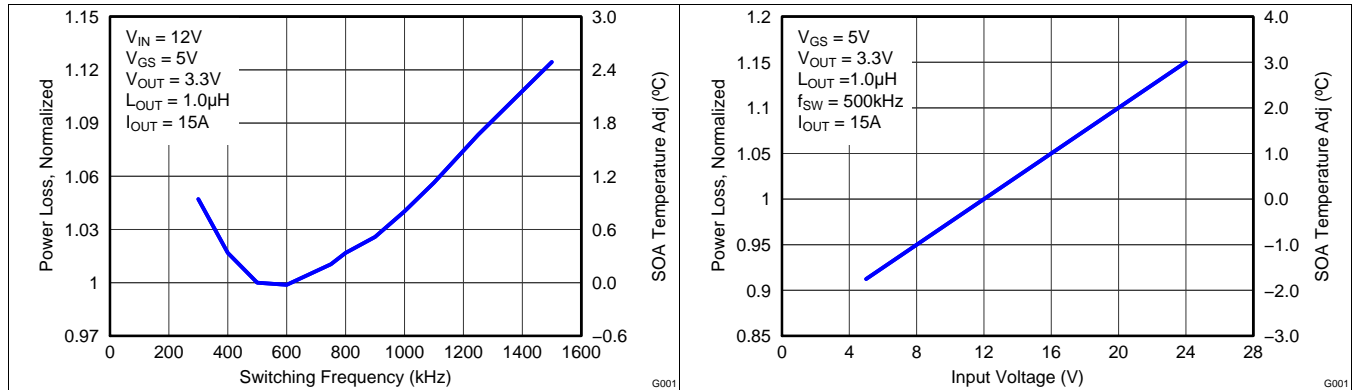

Figure 6. Normalized Power Loss vs Switching Frequency
- Normalized Power Loss for switching frequency \approx 1.04 (Figure 6)
- SOA adjustment for switching frequency \approx 0.8°C (Figure 6)